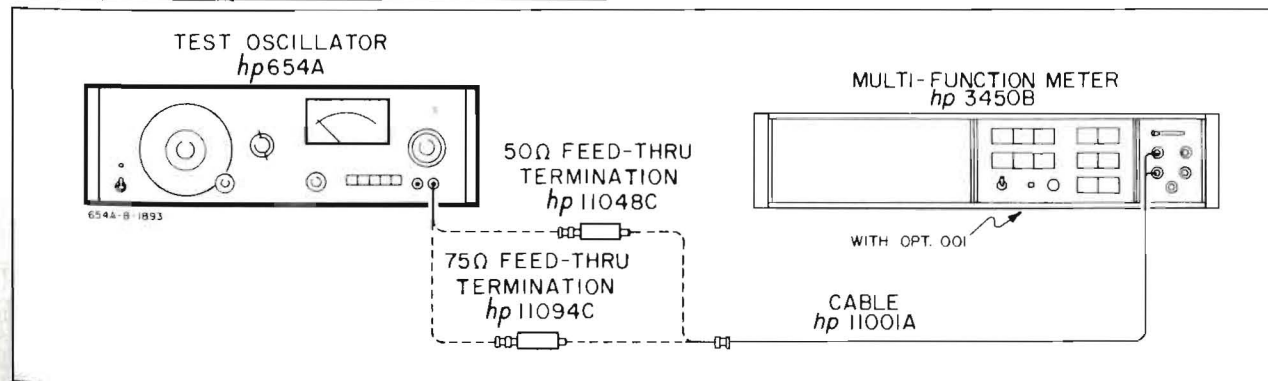

Figure 5-1. Amplitude Accuracy Checks - UNBAL
- a. Connect the equipment as shown in Figure 5-1. Use the 50 ohm Feedthrough termination which should be connected directly to the 654A output connector.